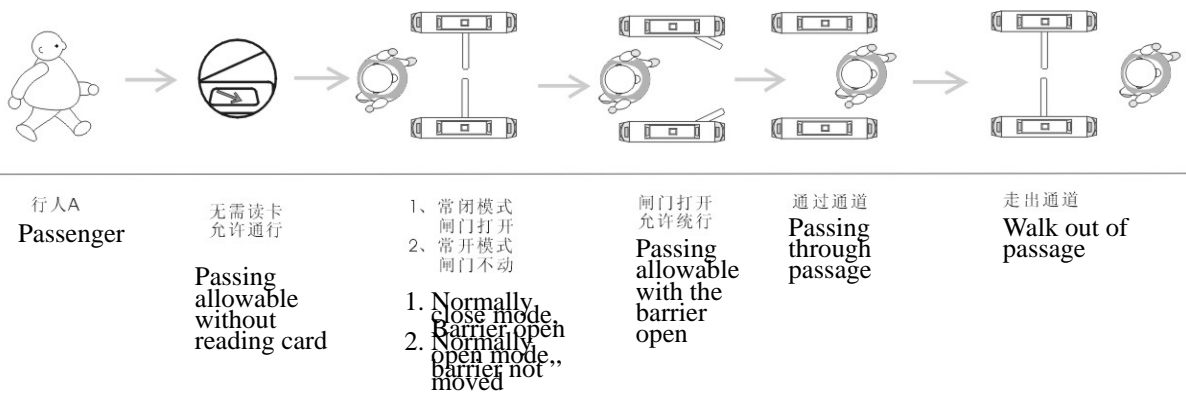

Fig. 15
- 4) Free passing: for a passage, the passengers may pass through following the indication mark of the direction indicator without reading card. The process is as given in Fig.15.